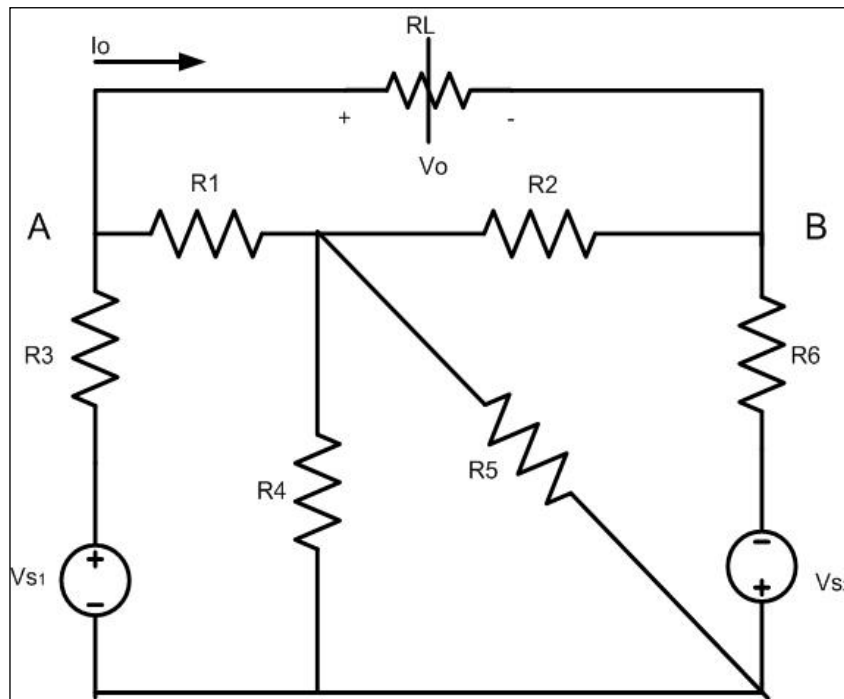

Fig. 4-6: Simple Circuit to Measure Thevenin Equivalent
- a. Assemble the circuit in Figure 4-6 with the component values shown in Table 4-1. ( $R_L$  is 10 K $\Omega$  potentiometer (Pot), **in this section there is no need to connect this Pot. in the circuit.**)